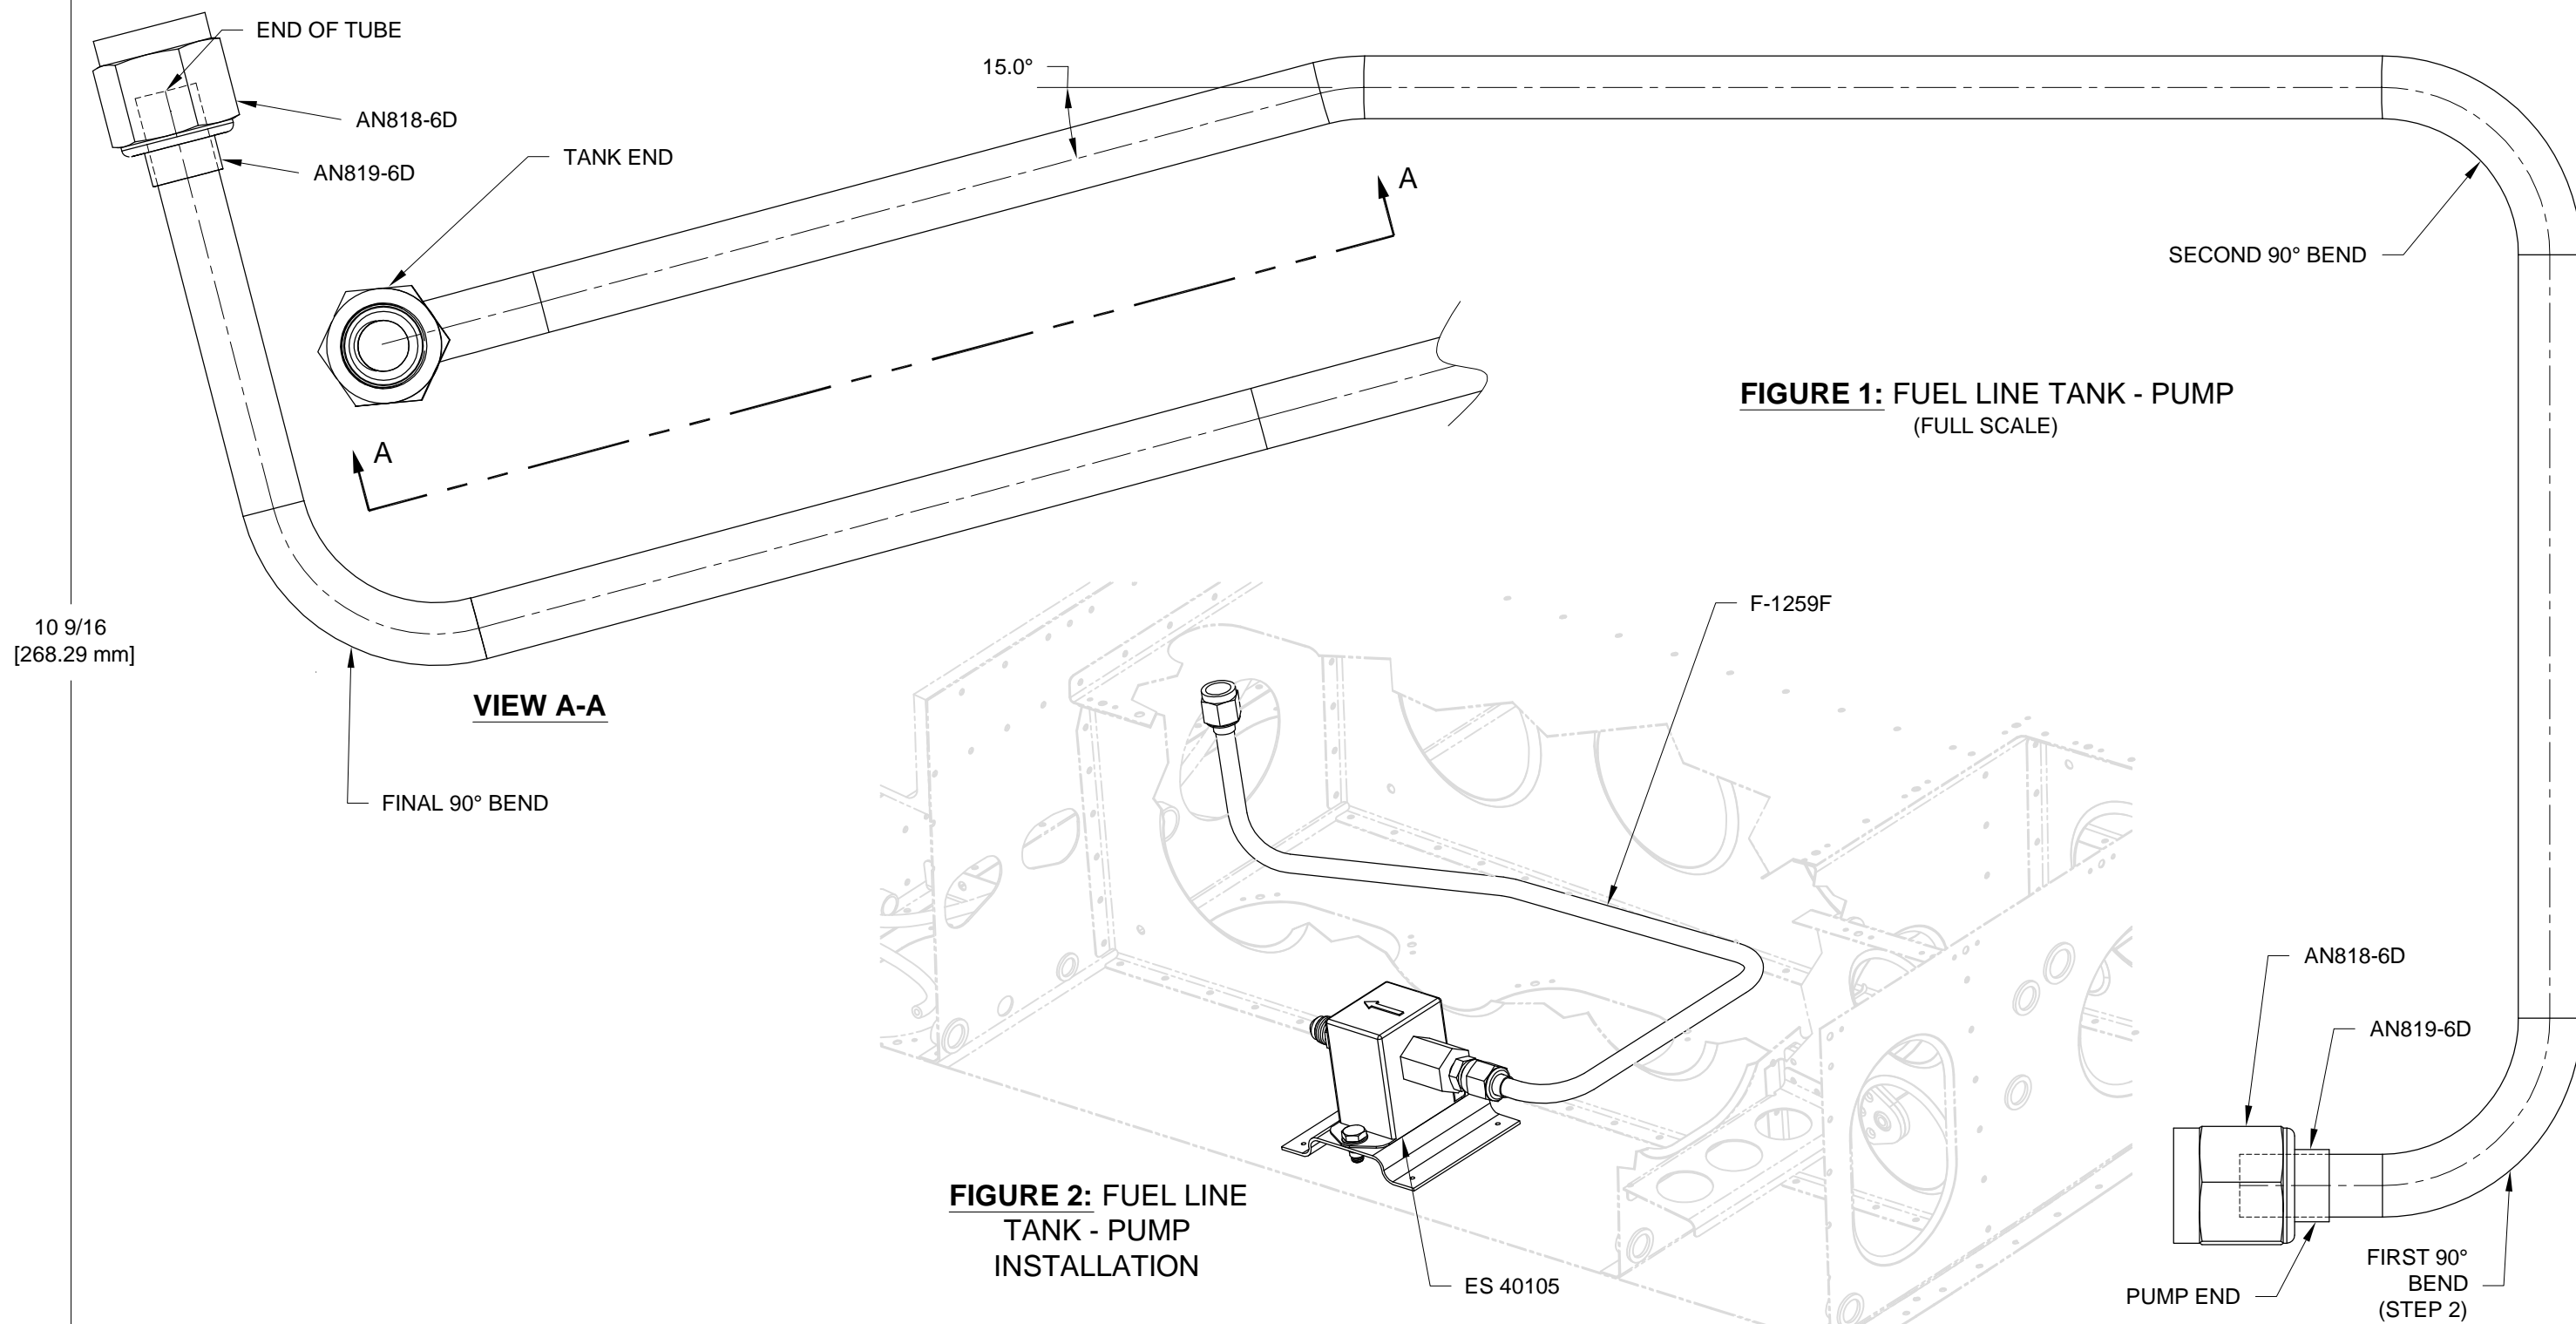

FIGURE 1: FUEL LINE TANK - PUMP
Step 1: Straighten out two feet of ATO-035X3/8 tubing. (Unrolling against a flat surface works well). Make the F-1259F Fuel Line Tank - Pump by starting at the pump end. Slip the nut then the sleeve called out in Figure 1 over the end of the tubing.
Step 2: Flare the end of the tube. Slide the sleeve up tight against the flare. Make the first 90° bend. Bend the second 90° bend and then the 15° bend to match the template in Figure 1. Make the final 90° bend going up to the tank by referencing View A-A in Figure 1 and Figure 2.
Step 3: Laying the tube over Figure 1, View A-A mark the end of tube. Cut the tube off. Place the nut and sleeve over the end of the tube. Check that the other nut and sleeve have not fallen off the tube. Flare the tank end of the tube.